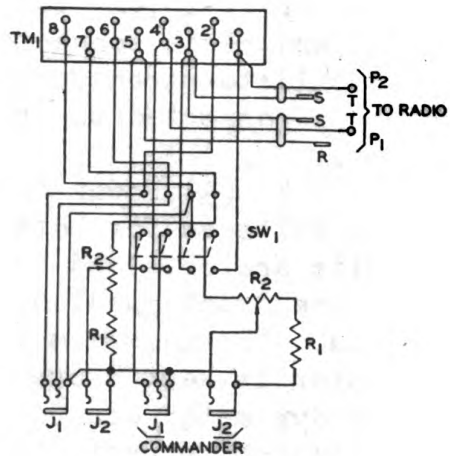

Fig. 10
d. Control Box BC-739 - (See Fig. 10 For Circuit Diagram) - This control box is wired so that the commander can be switched to either the radio system or the interphone system by means of the four pole, double-throw switch. A potentiometer is provided to control the output from the radio or interphone amplifier. In addition to the two jacks provided for the commander, another set of headset and microphone jacks is provided for an additional member of the vehicle personnel. This set of jacks is wired into the interphone system only and a volume potentiometer is provided to regulate the amount of signal to the headset.